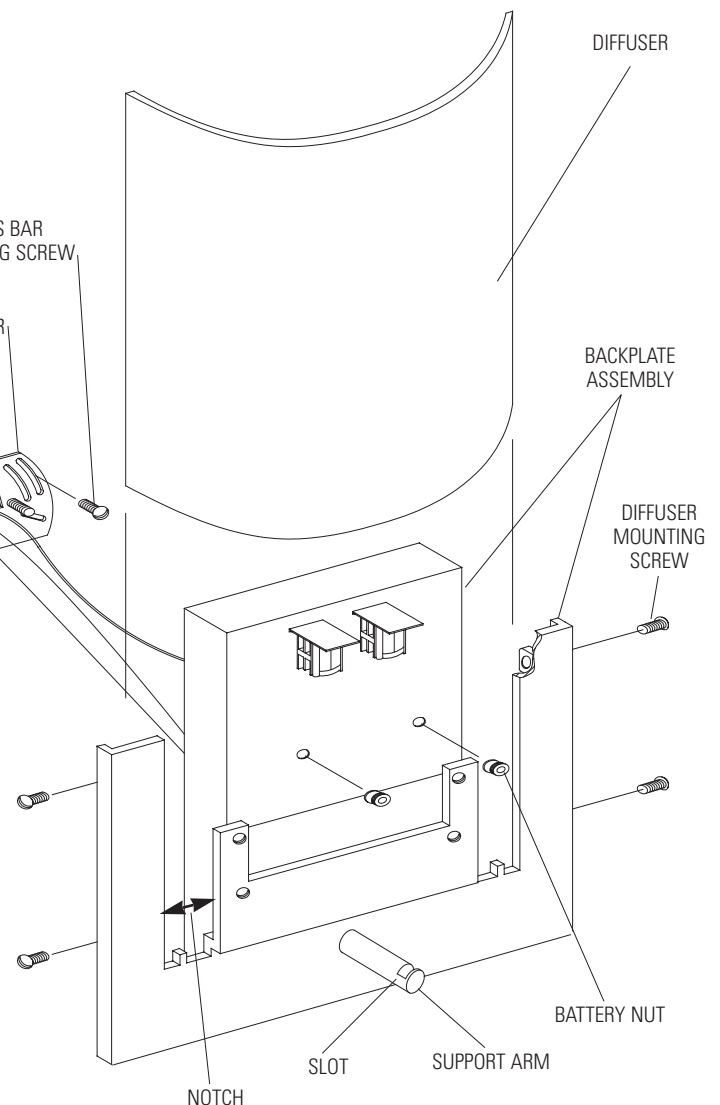

FIG. 1
1. Thread CROSSBAR MOUNTING SCREWS into CROSSBAR as shown (Fig. 1).